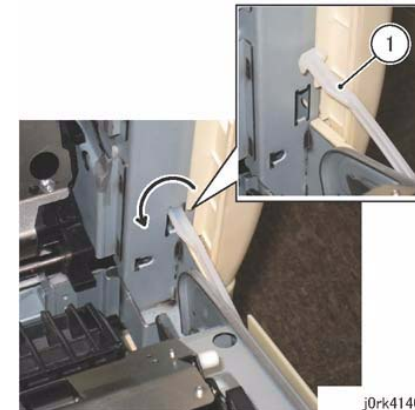

Figure 2 Front Support
5. Rotate the Front Support 90 degree counterclockwise and remove it from hole of the Frame. (Figure 2)